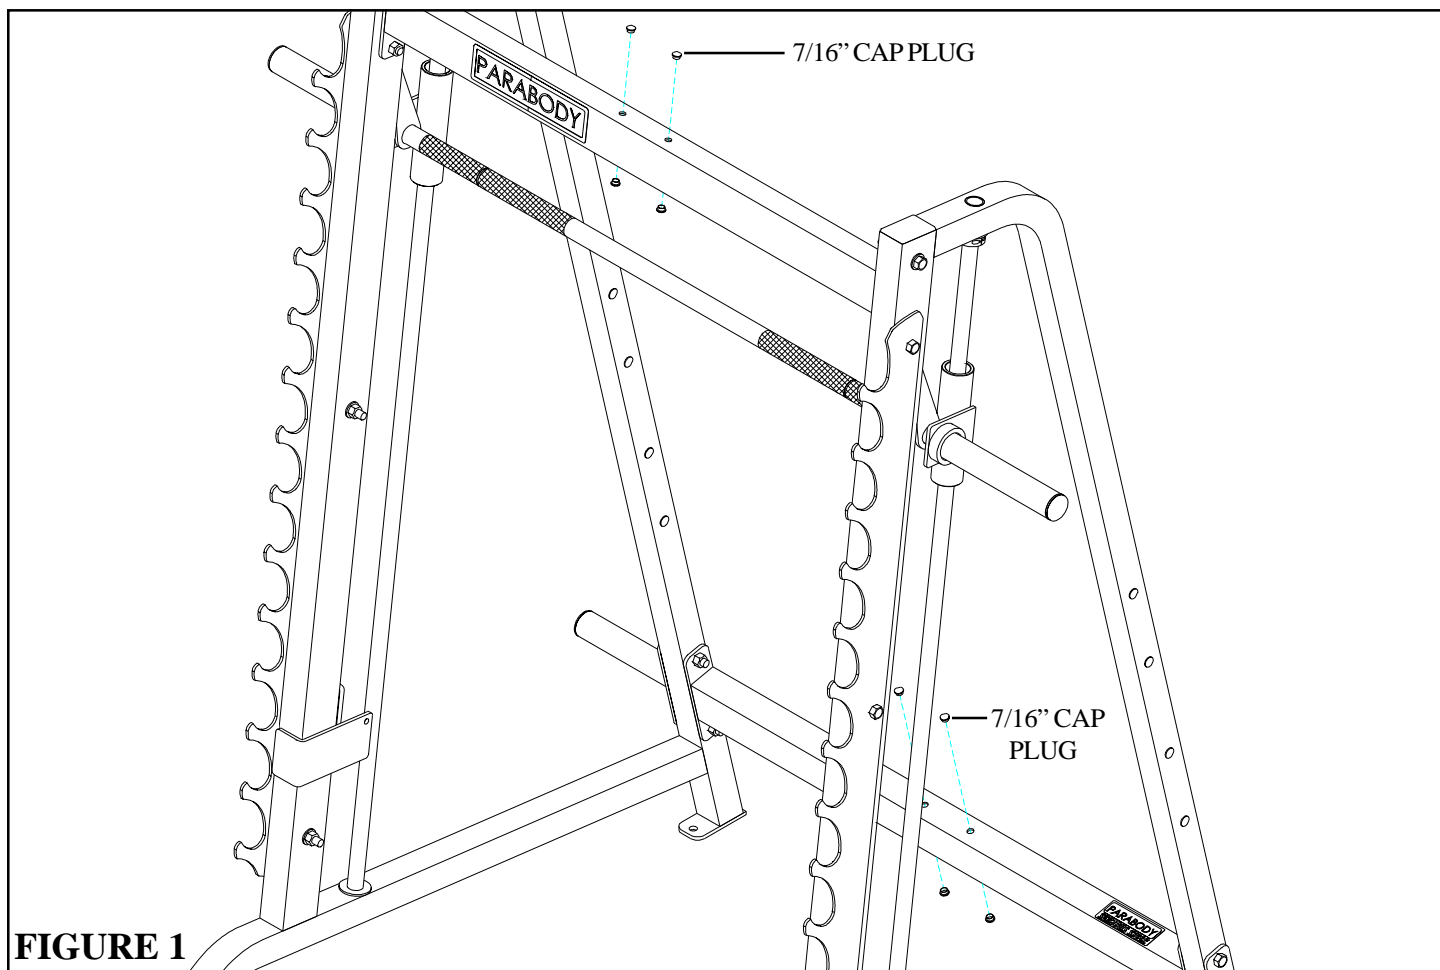

FIGURE 1
- Remove four 7/16" CAPPLUGS from the UPPER & LOWER CROSS SUPPORTS on the 888 SMITH MACHINE as shown in FIGURE 1.